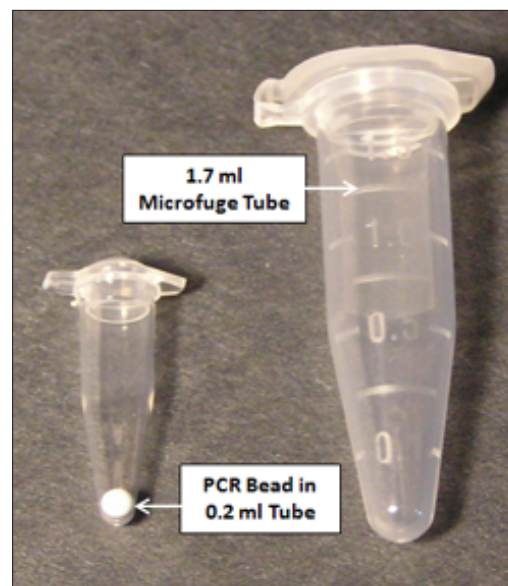

Figure 2.1: PCR Bead in a 0.2 ml Tube Compared to a 1.7 ml Microfuge Tube.
Today you will be using **PCR beads** (**Figure 2.1**), which are tiny white beads that contain all the ingredients for your PCR (freeze-dried or “lyophilized”) **except** the DNA template, primers, and nuclease-free water.
3. The PCR tubes are the small, 0.2 ml clear tubes provided by your teacher (See Figure 2.1). Each tube contains a small white bead that includes the *Taq* DNA polymerase, deoxyribonucleotides (dNTPs), and buffer. Obtain up to five tubes for your group: one for each student, and one for the negative control.